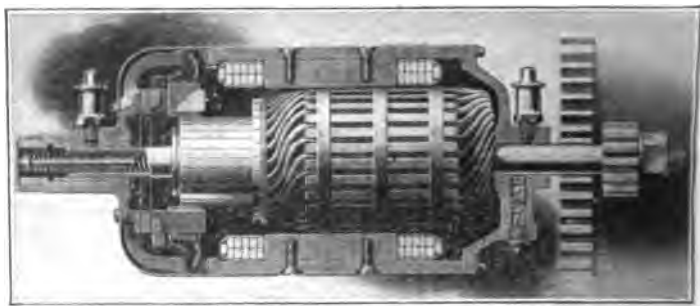

Fig. 155. Section of Bosch-Rushmore Starting Motor
Whether the windings be placed on two poles or on four poles is something that each designer decides according to his own preference in the matter. The Bosch-Rushmore starting motor, Fig. 155,
**Bosch-Rushmore Type.** Another form of automatic engagement, which is electrically operated in this instance, is that of the Bosch-Rushmore starter. By referring back to Fig. 155, which shows a section of this starting motor, it will be noted that there is a heavy spring on the left-hand end of the armature shaft and that